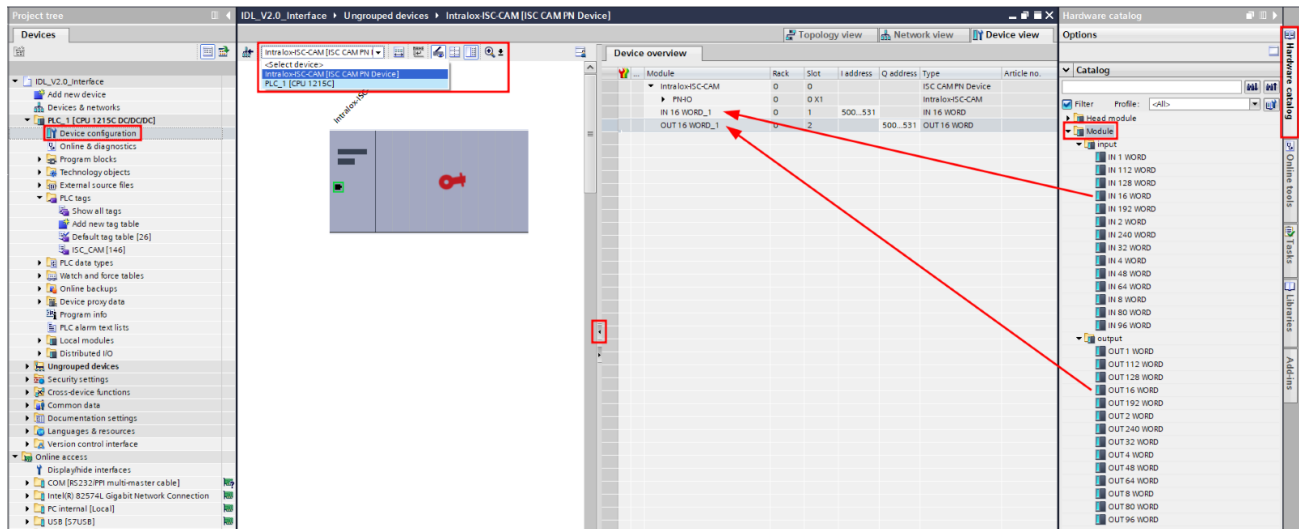

Figure 17: Configure Input and Output Size of ISC CAM Device
39. Select "Device configuration" in the project, Figure 17.
40. Choose ISC CAM from the drop-down menu in "Device view," Figure 17.
41. Expand the window to the right of the device to view the "Device overview," Figure 17.
42. Open the "Hardware catalog" to the right of the "Device overview," Figure 17.
43. Open the "Module" in "Hardware catalog," Figure 17.
44. Drag and drop "IN 16 WORD" into "Device overview" "Slot" 1, Figure 17.
45. Drag and drop "OUT 16 WORD" into "Device overview" "Slot" 2, Figure 17.